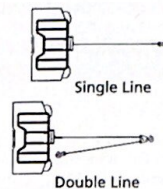

Figure 2
- Maximum working load capacity is on the wire rope layer closest to the drum. **DO NOT OVERLOAD. DO NOT ATTEMPT PROLONGED PULLS AT HEAVY LOADS.** Overloads can damage the winch and/or the wire rope and create unsafe operating conditions. FOR LOADS OVER 1/2 RATED CAPACITY, WE RECOMMEND THE USE OF THE OPTIONAL PULLEY BLOCK TO DOUBLE LINE THE WIRE ROPE (Figure 2). This reduces the load on the winch and the strain on the wire rope by approximately 50%. Attach hook to load bearing part. **The vehicle engine should be running during winch operation.** If considerable winching is performed with the engine off, the battery may be too weak to restart the engine.